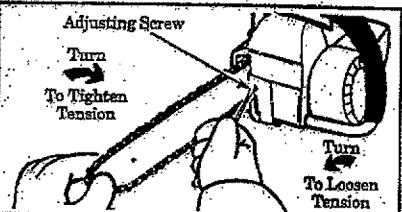

Figure 11
- Lift up the tip of the guide bar and turn the adjusting screw clockwise until the chain does not sag beneath the guide bar. Figure 11.